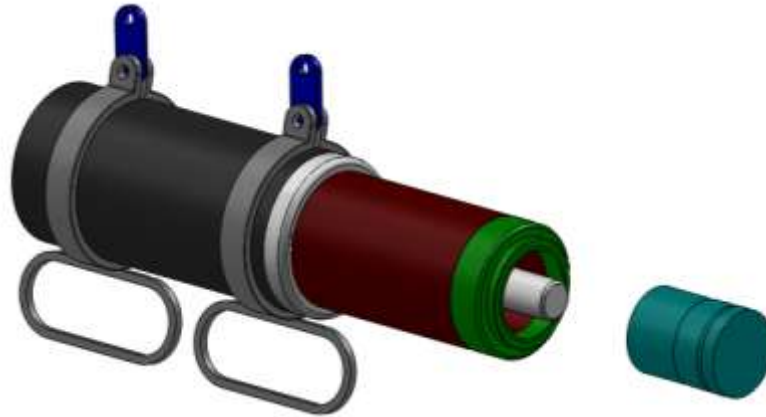

Figure 3.3-2
2. Thread mandrel onto the Pull Rod of the Jumbo Brute Puller Unit (see Figure 3.3-2).